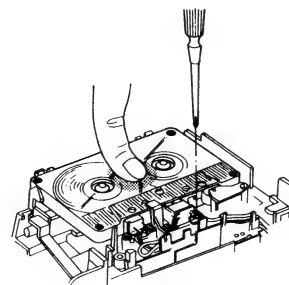

Fig. 3
- If you wish to readjust the head azimuth, be sure to adjust with adhering the cassette tape closely to the mechanism by pushing the center of cassette tape with your finger. (Shown in Fig. 3.)